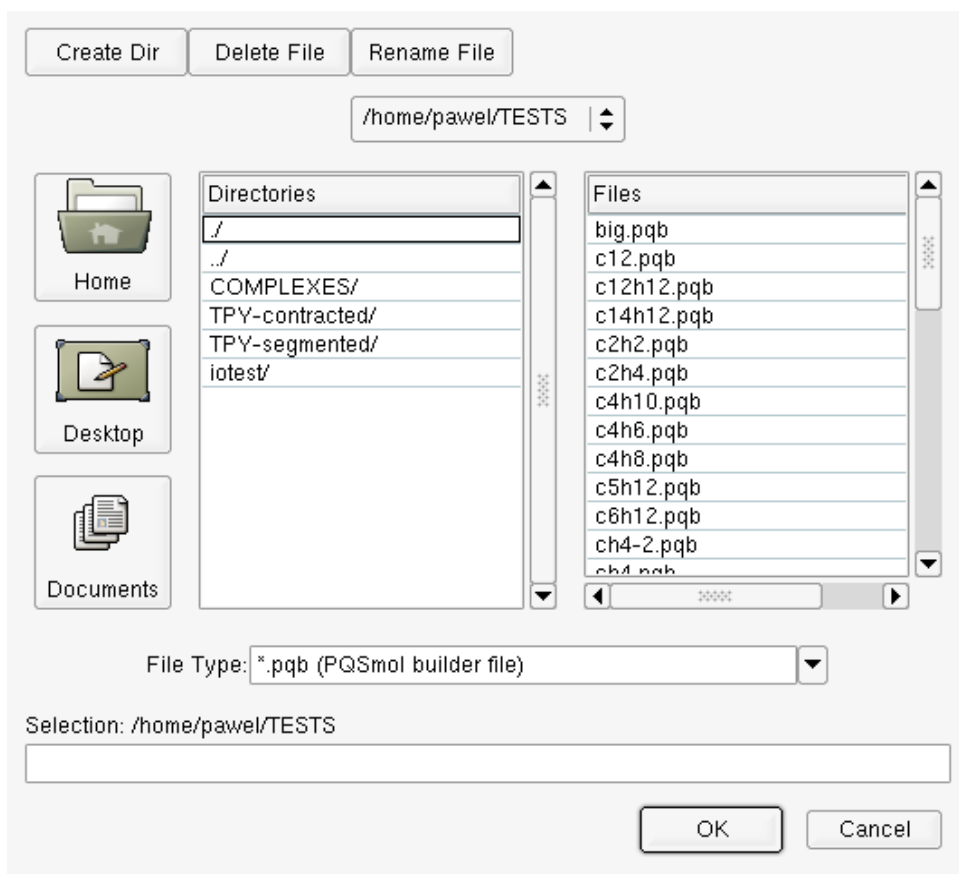

Figure 2.23: File Open dialog
- **Open Existing** opens an existing build file. The File Open dialog, Figure 2.23, lets you browse directories for a specific file. The file list is filtered so that only the pqsmol build files, with the **.pqb** extension, are displayed. You can change the current browse directory by selecting entries in the *Directories* list on the left and a specific file can be selected from the **Files** list on the right side.